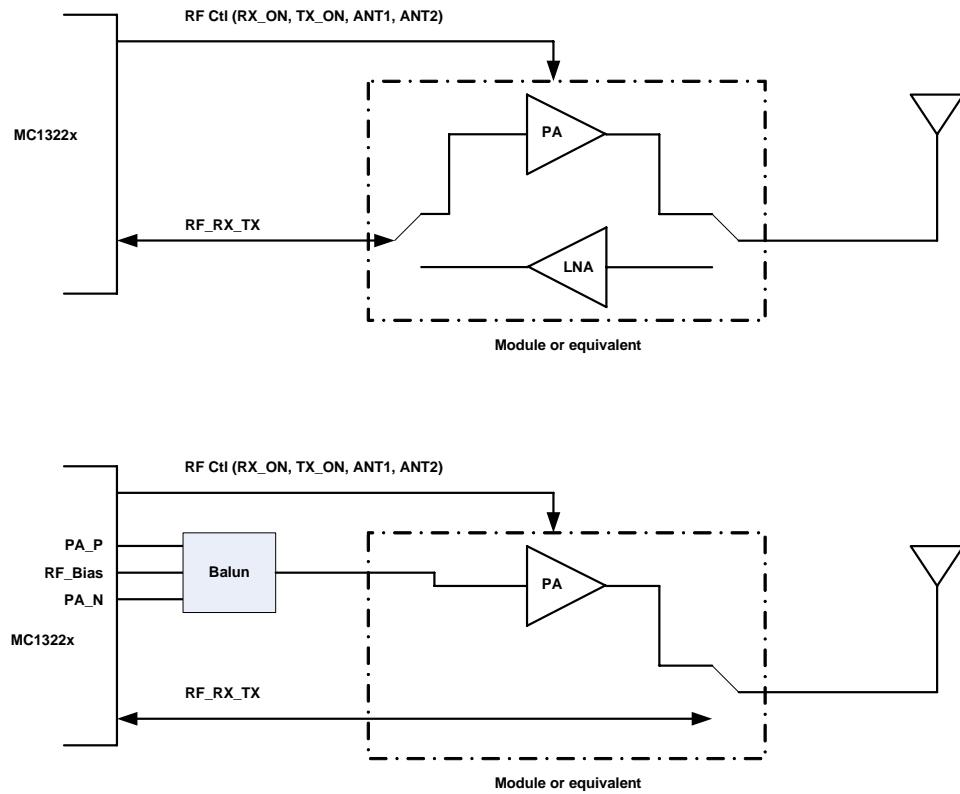

Figure 3-14. Using the MC1322x with External RF Components
For those applications choosing to include an external LNA for greater sensitivity, an external PA for greater output gain, or even multiple antennas, the MC1322x provides hardware support. Figure 3-14 shows two basic modes for using the MC1322x with external RF hardware:
- Single-ended, single port only (top half of Figure 3-14) shows with proper control, the single-ended port can be routed to a PA for TX and a secondary path (shown here with an LNA) for RX. The LNA may not be included because of the excellent receive sensitivity of the MC1322x
- Dual port, i.e., using secondary complementary PA outputs for amplified power along with the single-ended RF_RX_TX port (bottom half of Figure 3-14) shows an alternative approach using the device's secondary PA outputs with an external PA as a separate TX path and the single-ended port as simply the receive path.